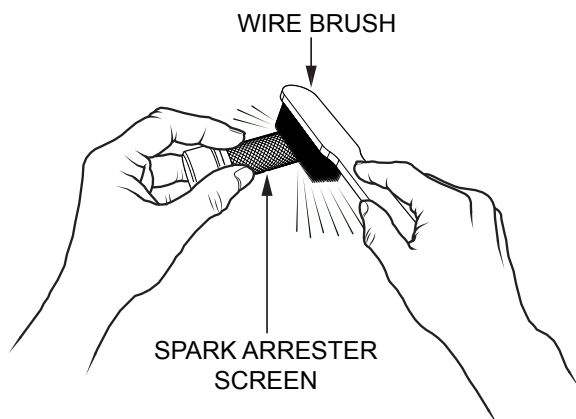

Figure 65. Cleaning The Spark Arrester
4. Carefully remove carbon deposits from the spark arrester screen with a wire brush (Figure 65).